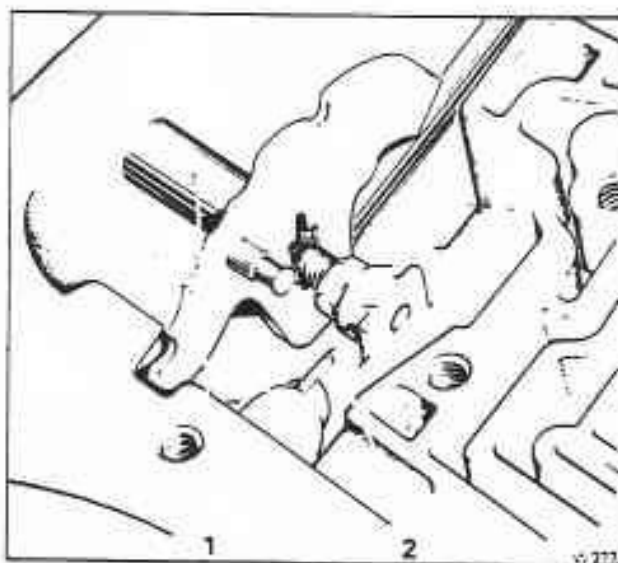

Fig. T17-5 Fitting the manual shaft retaining pin
11. Fit the retaining pin into the transmission casing, aligning it with the groove in the manual shaft (see fig. T17-5).